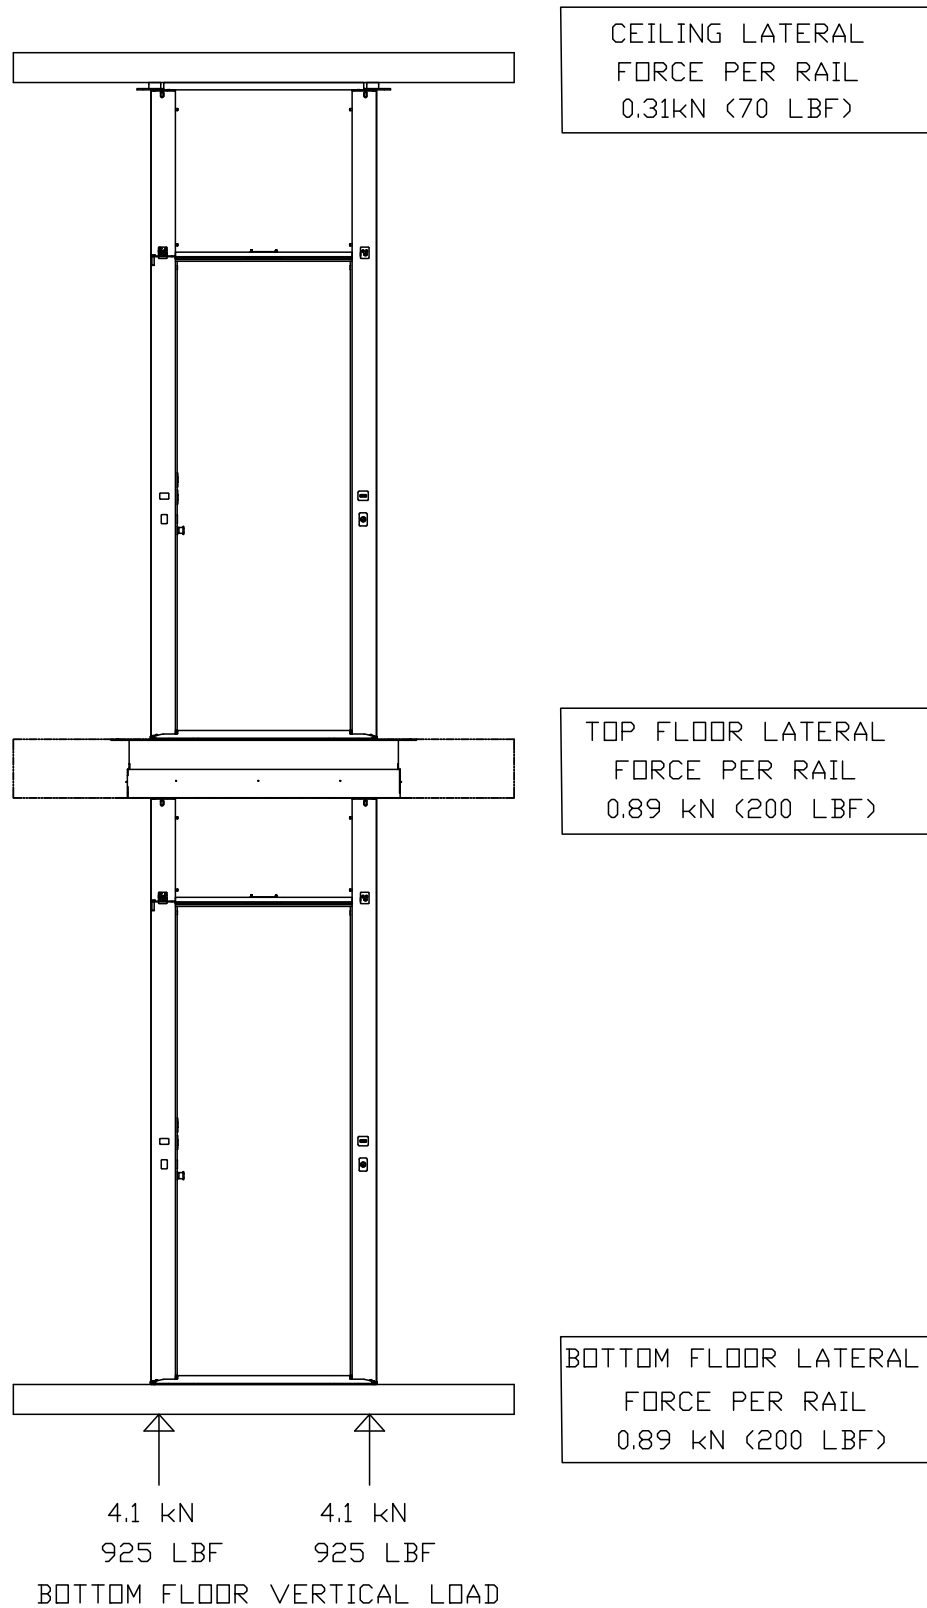

Figure 3: Support Load Diagram
- Luma is designed to transfer the fully loaded elevator weight and impact forces to the lowest level through the rail base plates, provided it is properly installed in a structurally sound building with consistent floor-to-floor heights. (Figure 3)